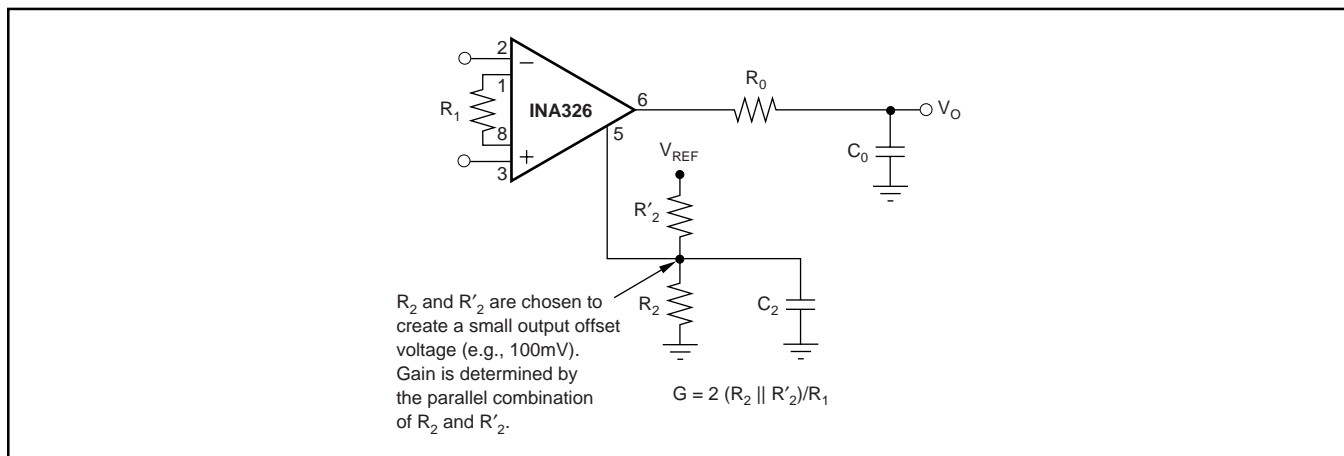

FIGURE 6. Generating Output Offset Voltage.
NOTES: (1)  $C_2$  and  $C_O$  combine to form a 2-pole response that is -3dB at 1kHz. Each individual pole is at 1.5kHz. (2) Output voltage is referenced to  $I_{A\_COMMON}$  (see text). (3) Output offset voltage required for measurement near zero (see Figure 6).